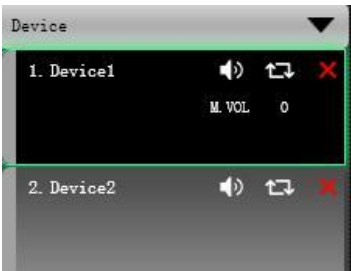

Figure 6.1.2
- As shown in Figure 6.1.2, the device name, group, and IP can be modified in the upper left corner of the initial interface, and then “device” -“devices”, information can be changed according to actual needs.